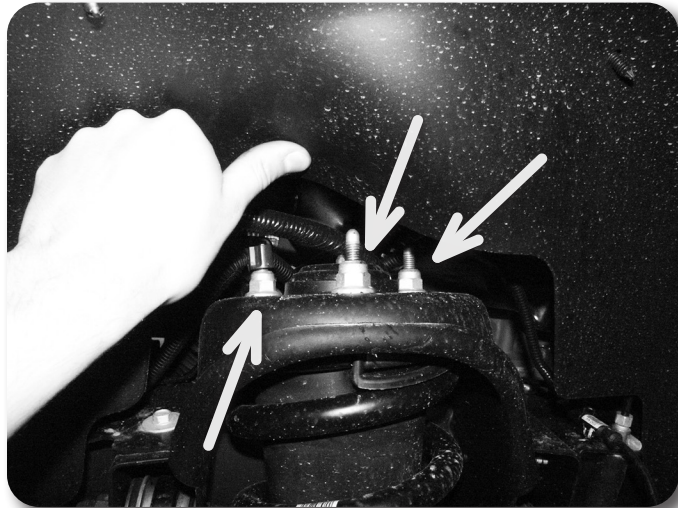

Figure 8A
16. Install new strut assembly into the upper strut frame mounting location. Ensure orientation aligns with indexing mark from Step 10 and Step 6. Fasten three upper OE strut nuts **Figure 8A**. Torque nuts to 37 ft-lb.